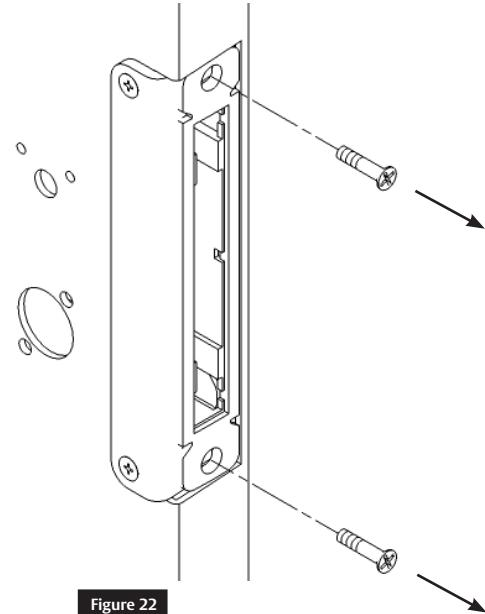

Figure 22
- Remove the two (2) #12-24 x1" flat head mounting screws. (Figure 22)